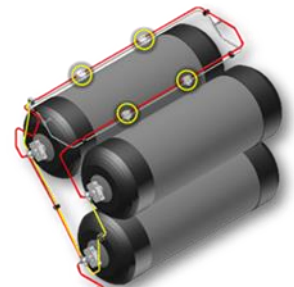

figure 4
**Tail Mounts** have a minimum of 4 figure 4.